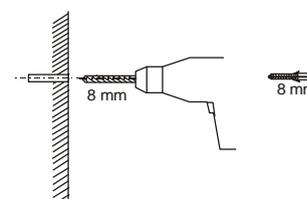

Figure 50
2. Drill and plug at the marked positions. (see **Figure 50**)